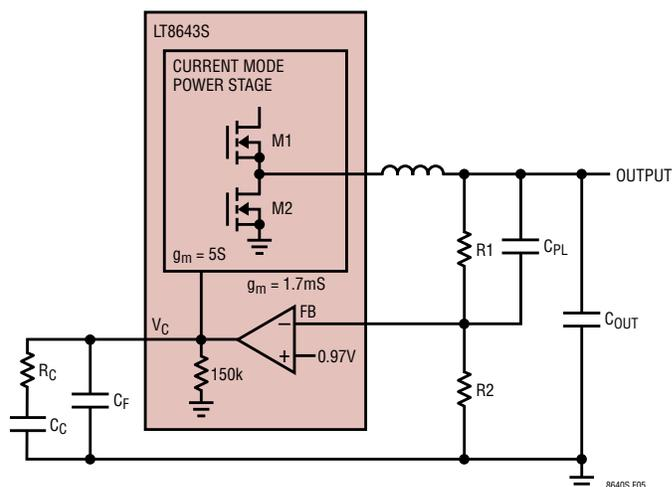

Figure 5. Model for Loop Response
Figure 5 shows an equivalent circuit for the LT8643S control loop. The error amplifier is a transconductance amplifier with finite output impedance. The power section, consisting of the modulator, power switches, and inductor, is modeled as a transconductance amplifier generating an output current proportional to the voltage at the VC pin. Note that the output capacitor integrates this current, and that the capacitor on the VC pin (CC) integrates the error amplifier output current, resulting in two poles in the loop.